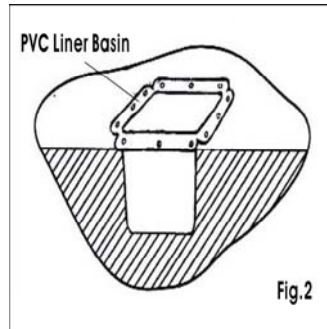

Fig.2
3. Place PVC Liner Basin into the hole and check the fit. The PVC Liner Basin should fill the hole completely, without extra space on any side. Unfold the edges so that they lay flat on the surface of the ground (Fig. 2).